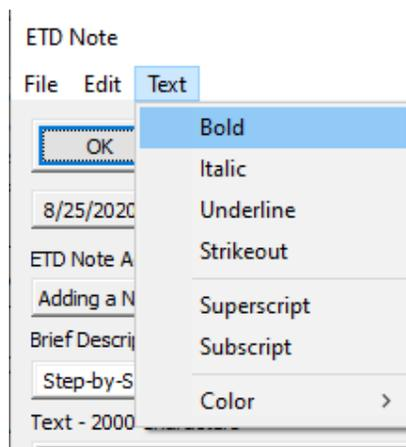

Figure 3 - Format the Text.
Step 5: The note editing dialog will open. The unlabeled, read-only, time and date field will be updated automatically. Add a Brief Description/Title. Add up to 2000 characters of descriptive text. Format selected text using the Text menu (**Figure 3**).